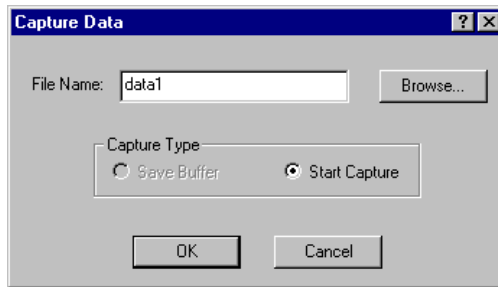

Figure 5-21. Capture Data to a File
1. Click Capture Data. A Capture Data dialog box is displayed (Figure 5-21).